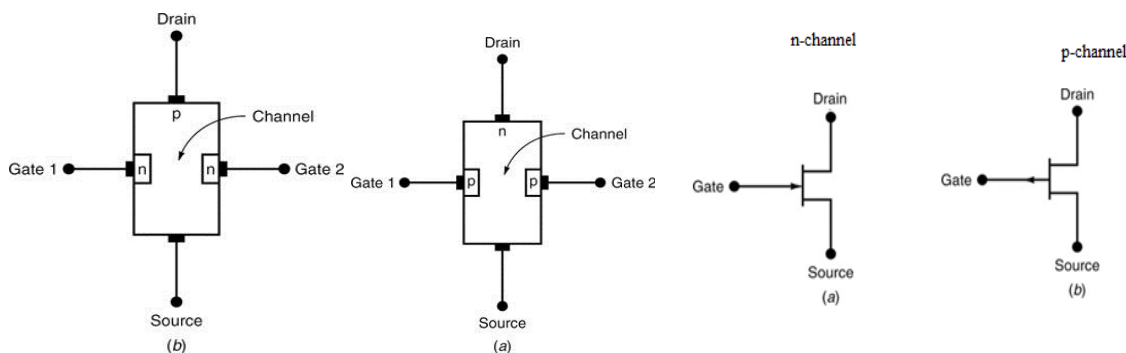

Figure 4.1: Junction Field Effect Transistors basic construction and their symbols
The basic Structure of junction field effect transistor is formed from a bar of n/p SC material called channel with a region of p/n material embedded in each side (fig. 4.1). Top and bottom of the channel is connected through an ohmic contact to a terminal referred to as, respectively, the drain (D) and source(S). The two embedded regions are electrically connected and form the Gate. In practice, the channel is always lightly doped than the gate.